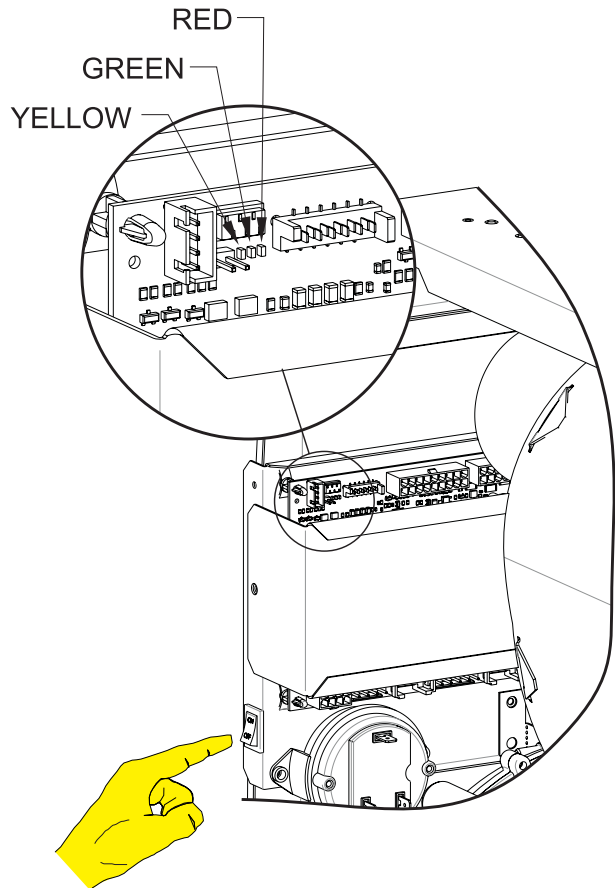

Figure 8
2. Turn on the unit's main power switch. If electrical power is present, the red and green LED's on the control board will begin to flash alternately. **See Figure 8.**